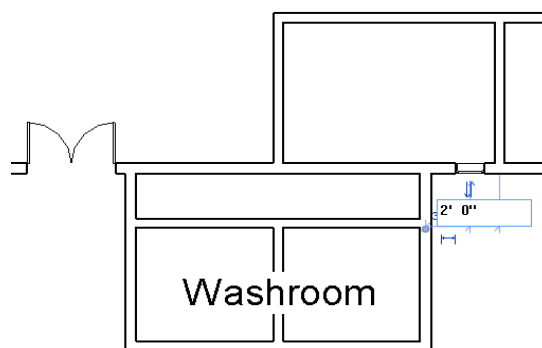

Figure 3-84 Specifying the location of the IT Server window
7. After adding the other window in the internal wall of the IT Server room, you need to move it to the exact location. To do so, select the window; it is highlighted in blue. Click on the left temporary dimension; an edit box is displayed. Enter **2'0"** for Imperial or **600 mm** for Metric in the edit box, as shown in Figure 3-84, and then press ENTER; the window is moved to the desired location. Press the ESC key and exit.